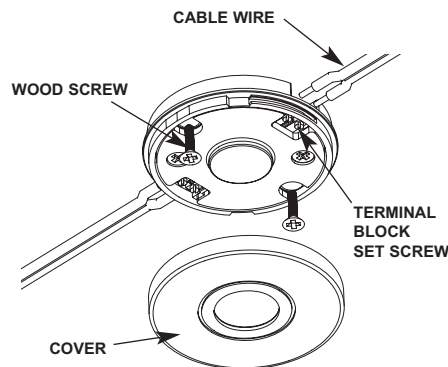

Figure 1
**Step 3.** To surface mount fixture use the template (Fig. 3) to drill two pilot holes for the wood screws before attaching the fixture to mounting surface (Fig. 1.) For a typical under-kitchen cabinet installation, it is recommended to space fixtures 9" to 9-1/2" from back wall to fixture center for even illumination of counter and backsplash. Wiring from transformer to fixture, and fixture to fixture can be handled two ways. **Option-1:** wiring exposed on the underside of the cabinet (Fig 1). When using option-1 with exposed wiring, it may be easier to wire fixtures before they are installed to mounting surface. Mark the center points of fixtures on mounting surface and drill mounting pilot holes (Fig 3). Take your fixture center-to-center measurement. By subtracting 2" from this dimension, you will have the wire length required to connect fixtures together (refer to wiring diagram). **Option-2:** bring wires in from above fixture mounting surface (Fig 2). When using option-2 use the template (Fig 3) to drill two holes for wiring to pass through mounting surface (Fig 2). For optimal, even illumination, it is recommended to space fixtures 18" apart. However, fixture spacing less than or more than 18" will still provide high-quality lighting performance.
**Step 5.** Secondary wiring is not polarized. After inserting leads into terminal, tighten terminal block set screws securely to retain wires to 4 in-lb minimum (Fig. 1.) Make certain no bare conductors are exposed after attachment to terminals.